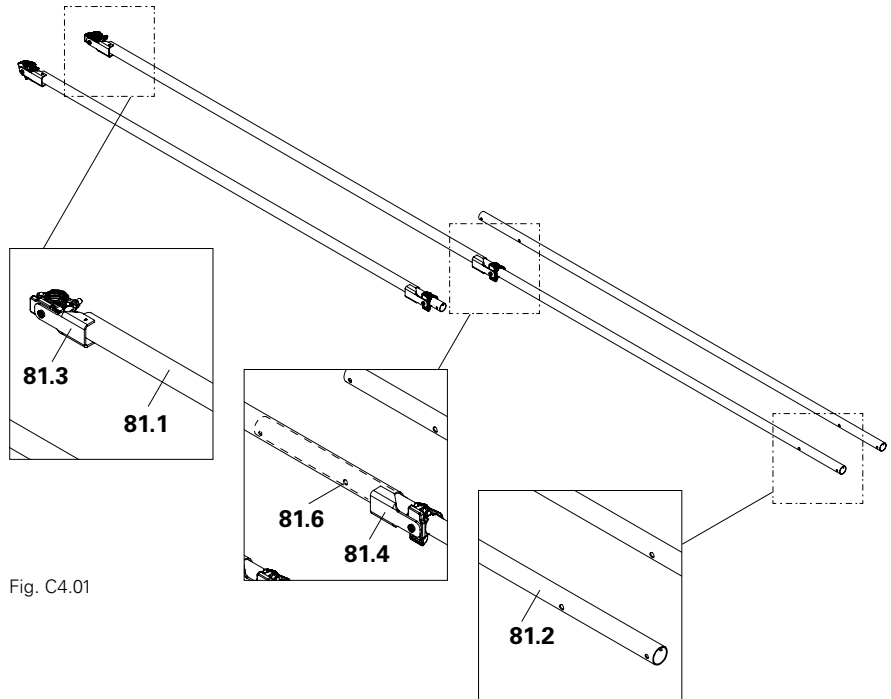

Fig. C4.01
- (Fig. C4.01)
- Maximum extension length 5.60 m. The second hole (**81.6**) in the inner tube must not be visible and must always be completely covered by the outer tube. (Fig. C4.01)